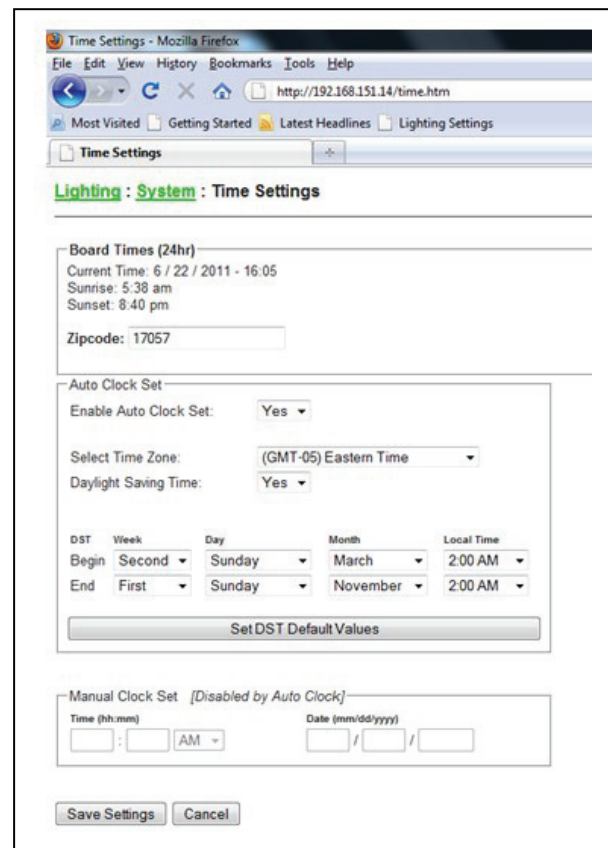

Figure 4
- B. To adjust the time, day or daylight savings day/time click on the “Adjust Time Settings” button and you should see a screen similar to the one shown in **Figure 4**. You can also use this screen to change the zipcode from the 17057 default and change the time zone from the default Eastern Time Zone.